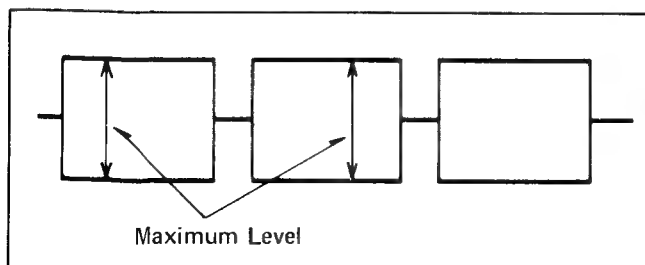

Fig. 17
3. Adjust Focus Control VR604 for maximum signal level as shown in Fig. 17.